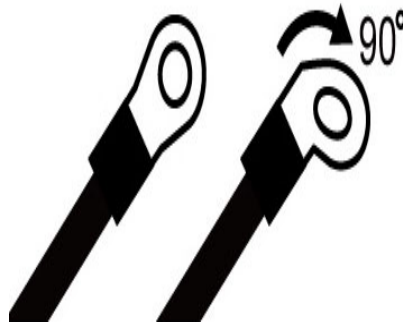

Figure 2-6 Assembling 62050P Input Terminal Safety Cover - 2
- b. Bend all of the wire terminals to 90° as Figure 2-6 shows.